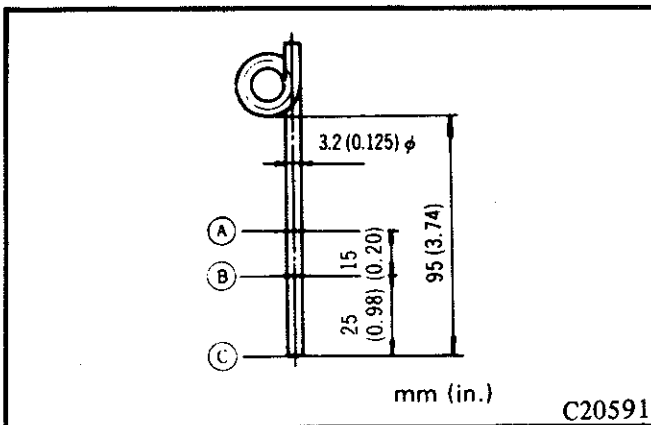

Fig. 15—Oil gauge (for compressor in horizontal position)
- (1) Discharge air conditioning system as previously described.
- (2) Remove the combined filler/drain plug at the upper side of the compressor crankcase.
- (3) Insert the oil gauge (refer Fig. 15) in the filler port until the gauge touches the bottom of the crankcase. The correct oil level should be between points A and B on the oil gauge. If the oil level is below point B, add refrigerant oil to the correct level. (Never use engine oil as a substitute for refrigerant oil).